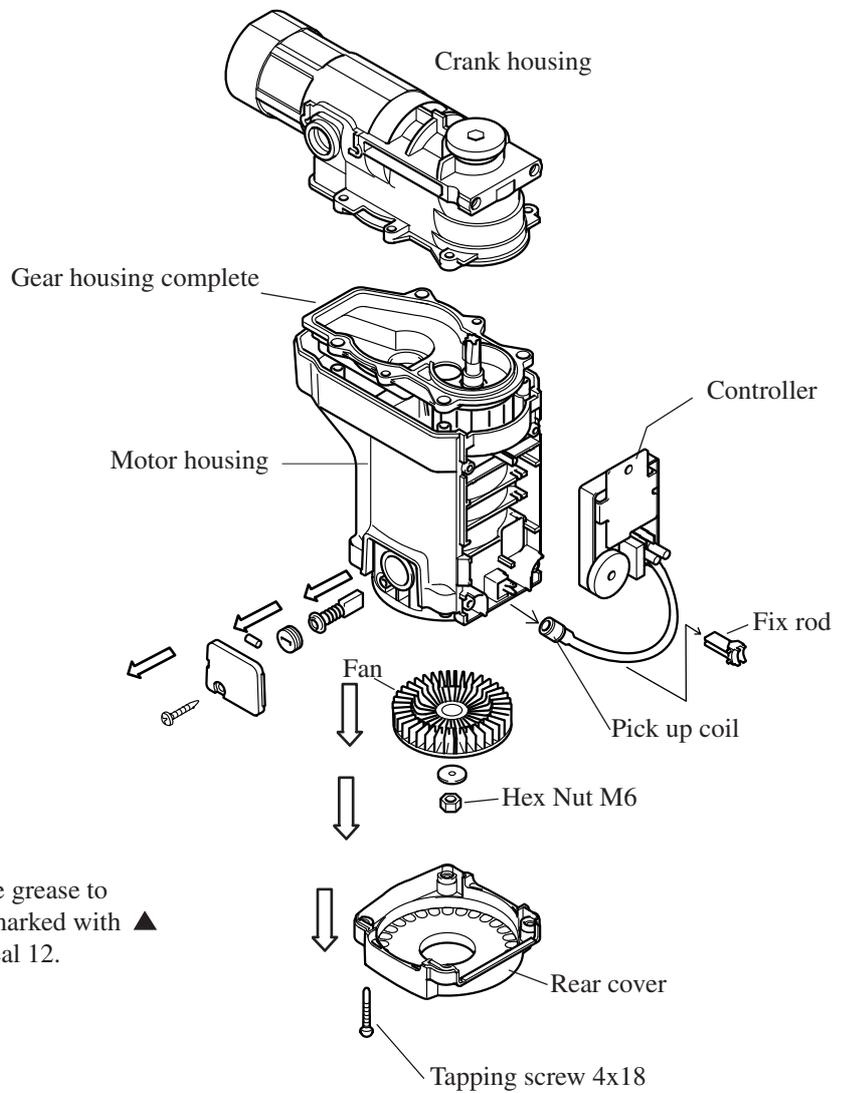

Fig. 8
5. Remove pick up coil after taking off fix rod. (see Fig.8 at the next page)
And then loosen Hex Nut M6 with holding fan with your hand. (see Fig.8)
8. Remove crank housing. (see Fig. 8)
9. Remove armature together with gear housing from motor housing by hitting the armature shaft after removing fan. (see Fig.8)